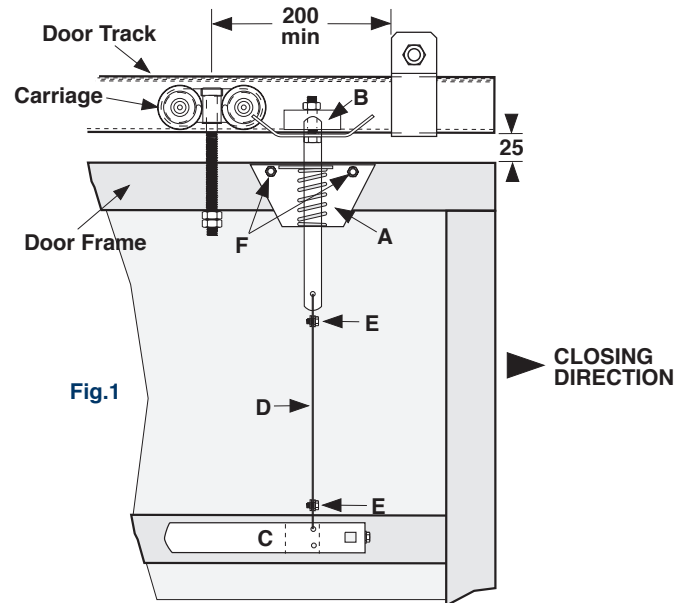

Fig.1
- For correct operation, 200mm clearance is required between carriage pin and nearest track support bracket with door in closed (locked) position (Fig.1)
- Clearance between top of door frame and underside of door track should be 25mm (Fig.1)
- Loosely assemble the Striker Plate, Clamp and Bolt (B) in the door track, on the closing side of the door carriage (Fig.1). Next, with the door in the closed position, slide the Striker Plate toward the carriage until it touches the carriage body. Tighten the clamping bolt until the Striker Plate is secure.
- Place the Spring Loaded Lock Mechanism (A) against the side of the door frame so that the locking pin is located centrally within, and protrudes 10 to 15mm above the slot on the Striker Plate; then mark the location of the two 6.0mm holes on the face of the door frame. (The position of the locking pin in the mounting bracket can be adjusted by relocating the 'R' clip in the desired hole).
- Side Mounting:** For heavy door frames, pre drill the two holes marked in step 2 with a 3.0mm drill bit. Attach the Spring Loaded Lock Mechanism (A) to the side of the door frame with the 2 Tek Screws (F). (Go to Step 4)
**Under Frame Mounting:** Use the marks made in step 2 for the location of the 6.0mm holes for a reference. From the mark made closest to the door carriage, measure and again mark a point 17.0mm away from the carriage and toward the closing edge of the door. Transfer this mark to the underside of the door frame, and then drill a 13.0mm hole vertically through the frame, making sure the hole is aligned to the centre of the door track & the slot in the underside of the Striker Plate. Place the Spring Loaded Lock Mechanism in position and mark the location of the two 6.0mm holes on the underside of the door frame (pre drill to 3.0mm if required). Adjust the position of the locking pin and attach the Spring Loaded Lock Mechanism (A) to the door frame with the 2 Tek Screws (F).
- Fix the Internal Latch Handle Assembly (C) to door handle shaft as required.
- Place one end of the Operating Cable (D) through the hole in the bottom of the spring loaded locking pin and secure with Cable Clamp (E). Place other end of Operating Cable (D) through the upper hole in Internal Latch Handle Assembly (C) and draw cable firm. Ensure spring loaded locking pin is fully extended and door handle is in closed (locked) position. Secure with Cable Clamp (E). Test operation and adjust as necessary.